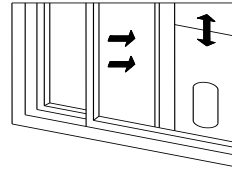

fig.3
- Half open the window and mount the window sealing plate assembly to the window (as shown in Fig. 3 and Fig. 4). Components can be placed in horizontal and vertical direction.